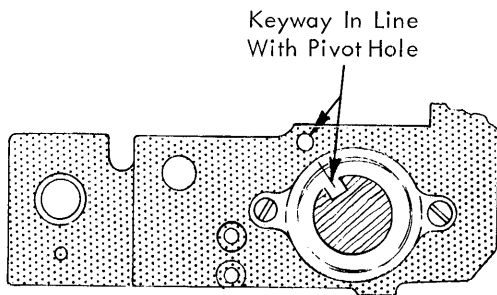

FIGURE 106. Preliminary Timing
1. Preliminary Print Shaft Timing - With the cycle shaft latched in its rest position, loosen the print shaft gear and rotate the print shaft so that the keyway is approximately in line with the end of the ribbon lift cam follower pivot screw (Fig. 106). The keyway will be about 45° to the rear from the top of the shaft.